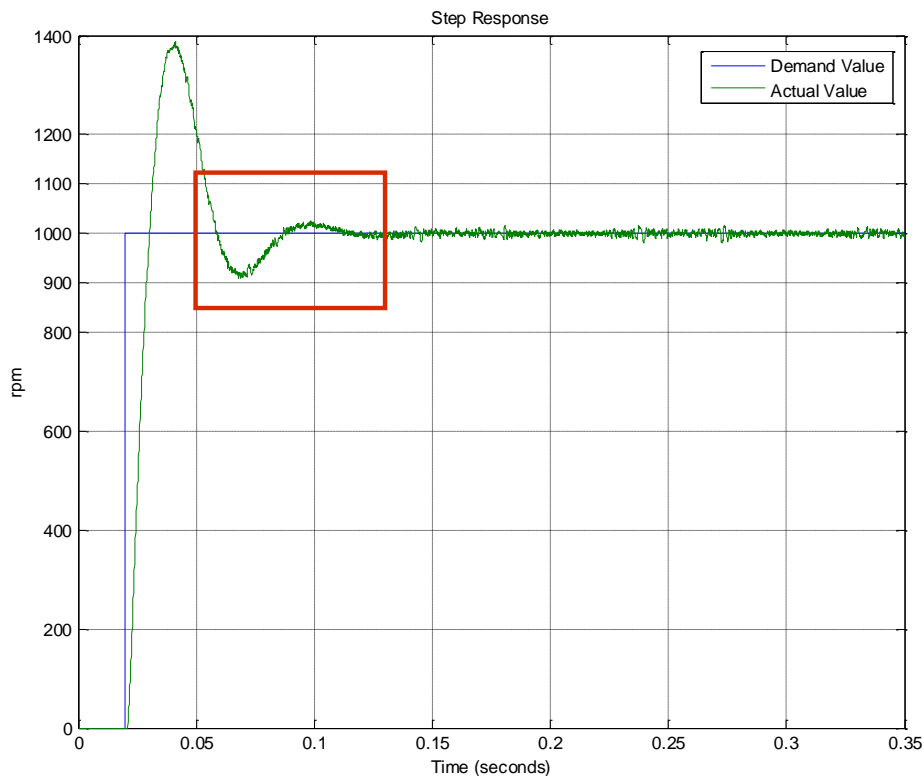

Figure 9: Ideally tuned velocity step response - simulated (MATLAB®/SIMULINK®)
Figure 9 shows the step response of a well-tuned velocity controlled system. The system should be well-damped, which means the second overshoot (see figure 9 – red rectangle) should be quite small and the system should settle afterwards. This goal is achieved by increasing the proportional gain  $K_P$ .
- Record step responses and gradually increase  $K_p$  using the slider until the system is well-damped (see figure 9 on page 11, evaluation of the second overshoot)